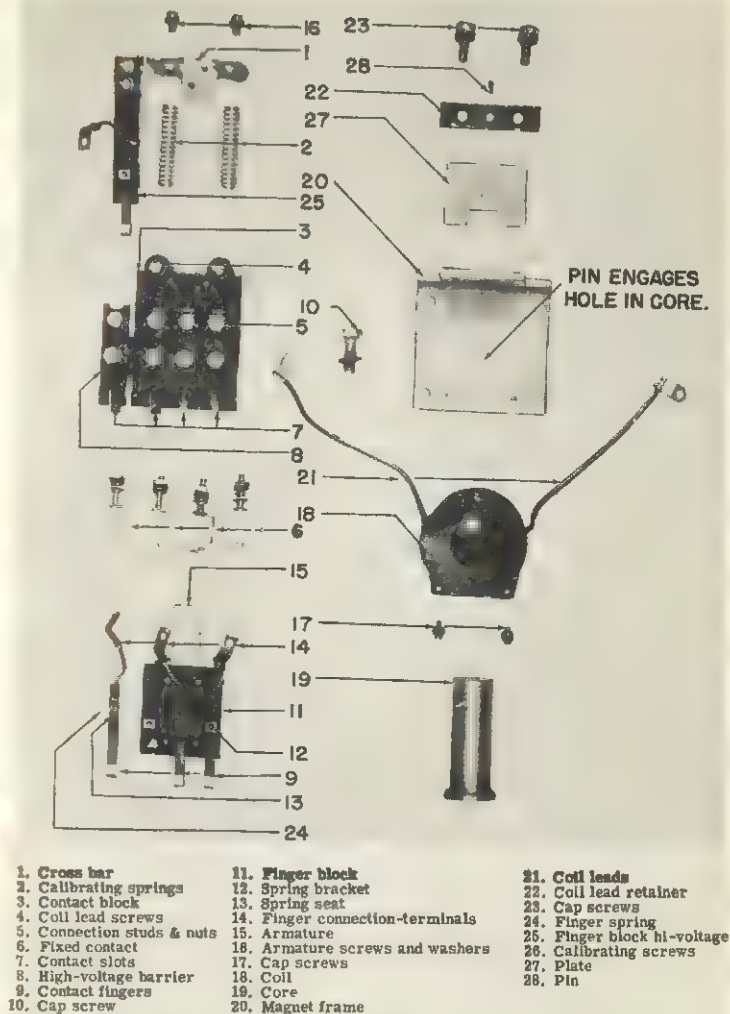

Fig. 2-20
See Fig. 2-20
- (3) Remove armature and finger-block assembly.
- (4) Holding moving finger compression spring 24 and slide moving contact fingers 9 out of finger block 11.
f. To remove operating coil - See Fig. 2-20:
- (1) Remove hex-head cap screw 10 that holds core 19 to magnet frame 20.
- (2) Remove two small screws 17 holding coil 18 to base of relay magnet frame.
- (3) Lift coil 18 from core 19.
3. REASSEMBLY - See Fig. 2-20